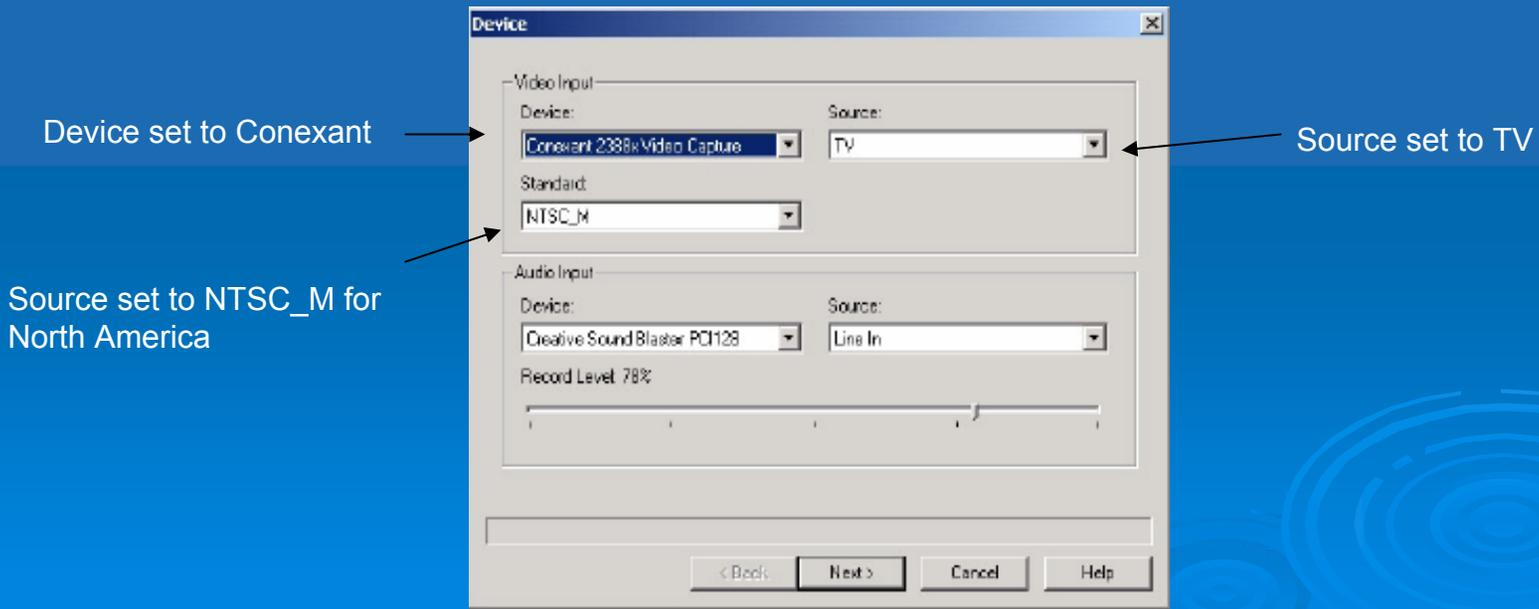

Fig 45-a
- Ensure source is set to TV (Fig 45-a)